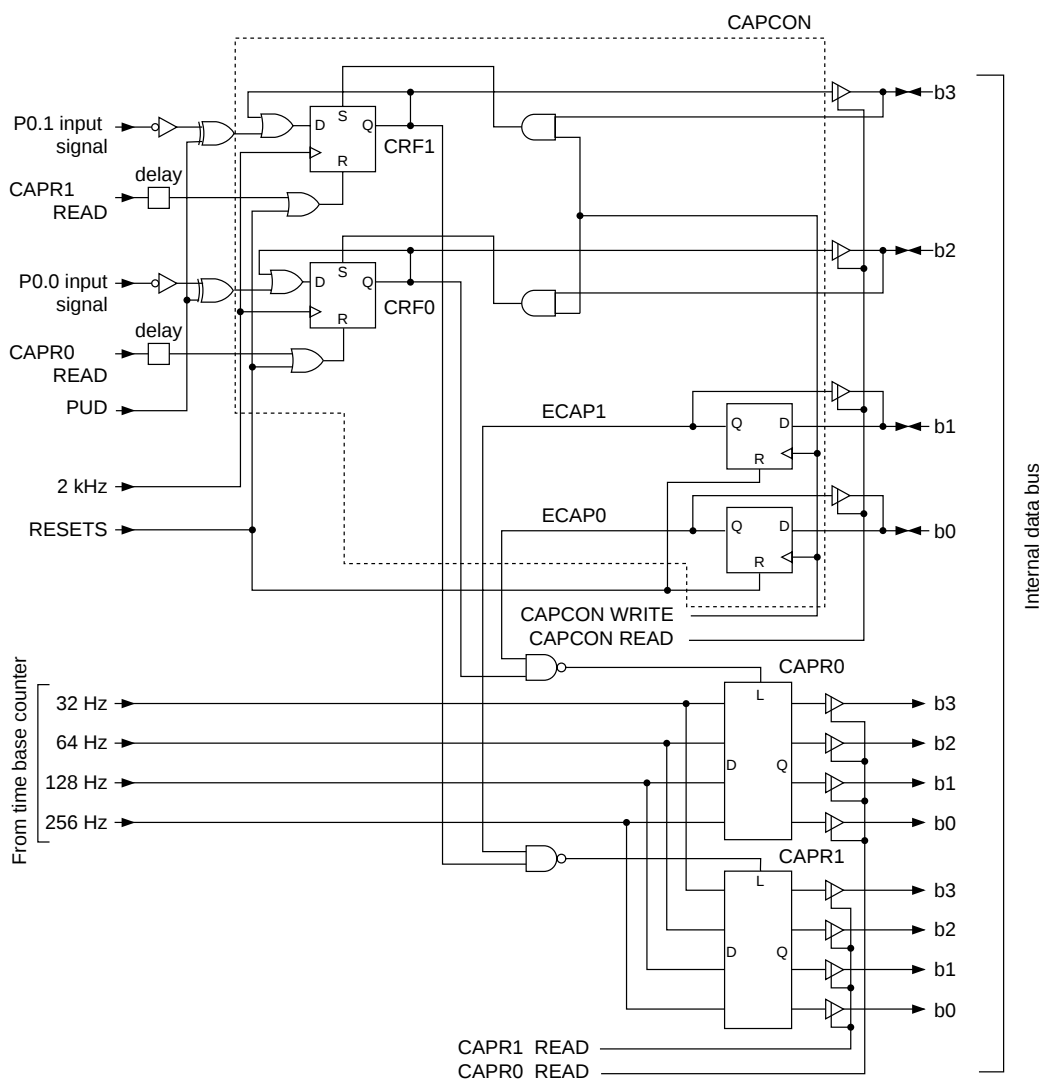

Figure 10-1 Layout of Capture Circuit
Figure 10-1 shows the layout of the capture circuit.
In Figure 10-1, CRF0 is set to "1" at the rising edge of 2 kHz output of the time base counter either when P0.0 input signal becomes "L" level selecting pull-up resistance input or when it becomes "H" level selecting pull-down resistance input while ECAP0 is set to "1" (① in Figure10-2). When CRF0 is set to "1", the latch signal of the Capture data register 0 (CAPR0) becomes "L" level and 32 Hz to 256 Hz of the time base counter is latched to CAPR0 (②). When CAPR0 is read out, CRF0 is reset to "0" (③).
In Figure 10-1, CRF1 is set to "1" at the rising edge of 2 kHz output of the time base counter either when P1.1 of the input port becomes "L" level selecting pull-up resistance input or when it becomes "H" level selecting pull-down resistance input while ECAP1 is set to "1". When CRF1 is set to "1", the latch signal of the Capture data register 1 (CAPR1) becomes "L" level and 32 Hz to 256 Hz of the time base counter is latched to CAPR1. When CAPR1 is read out, CRF1 is reset to "0".